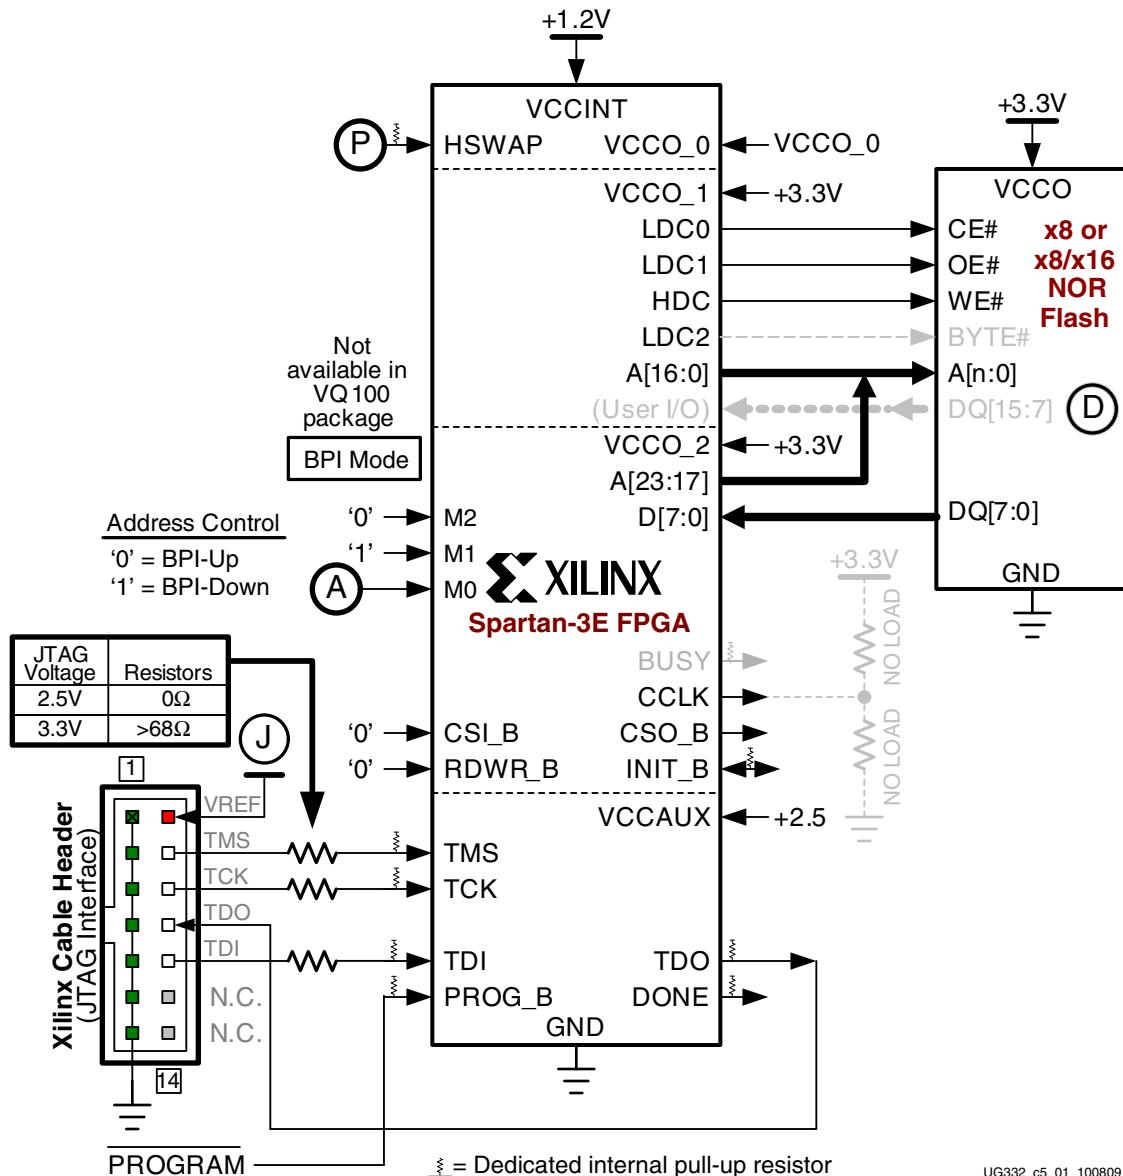
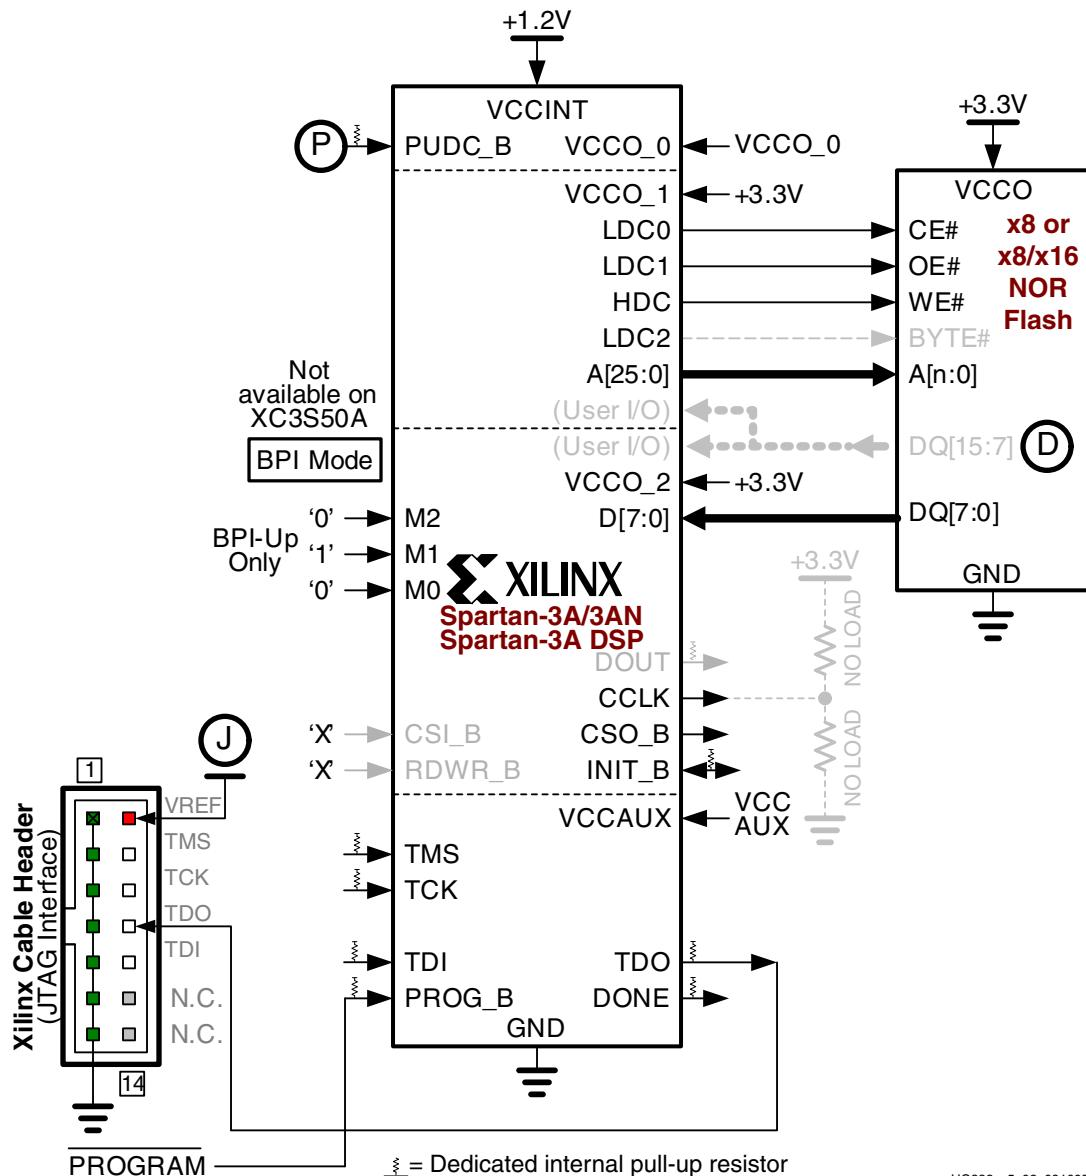

Figure 5-1: Spartan-3E FPGA Configured from Parallel NOR Flash
Figure 5-2: Extended Spartan-3A Family FPGA Configured from Parallel NOR Flash
In BPI mode, a Spartan-3E or Extended Spartan-3A family FPGA configures itself from a standard parallel NOR Flash PROM, as illustrated in Figure 5-1, page 144 for Spartan-3E FPGAs and Figure 5-2, page 145 for Extended Spartan-3A family FPGAs. The figures show optional components in gray and designated “NO LOAD”. The figures show a circled letter to associate a signal with more information found in the text.
(A) As shown in Figure 5-1, page 144, the Spartan-3E FPGA family supports two versions of BPI configuration, defined by the M0 mode select pin. As shown in Table 5-2, page 147, when the M0 mode-select pin is Low, a Spartan-3E FPGA configures using BPI Up mode, starting at address 0 and incrementing the addresses presented on the A[23:0] address pins. When the M0 mode-select pin is High, a Spartan-3E FPGA configures using the BPI Down mode, starting from the highest memory location (A[23:0] = 0xFFFFFFF) and automatically decrementing the memory addresses. Extended Spartan-3A family FPGAs do not support BPI Down mode.